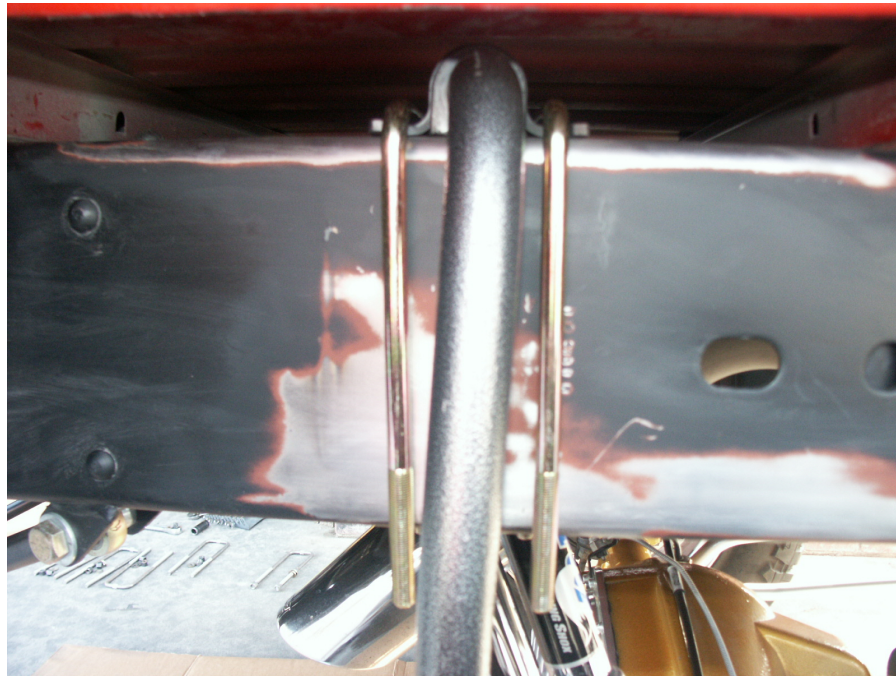

Figure 4: u-bolt placement
4. Place the u-bolts over the bushing u-clamps as shown in Figure 4.